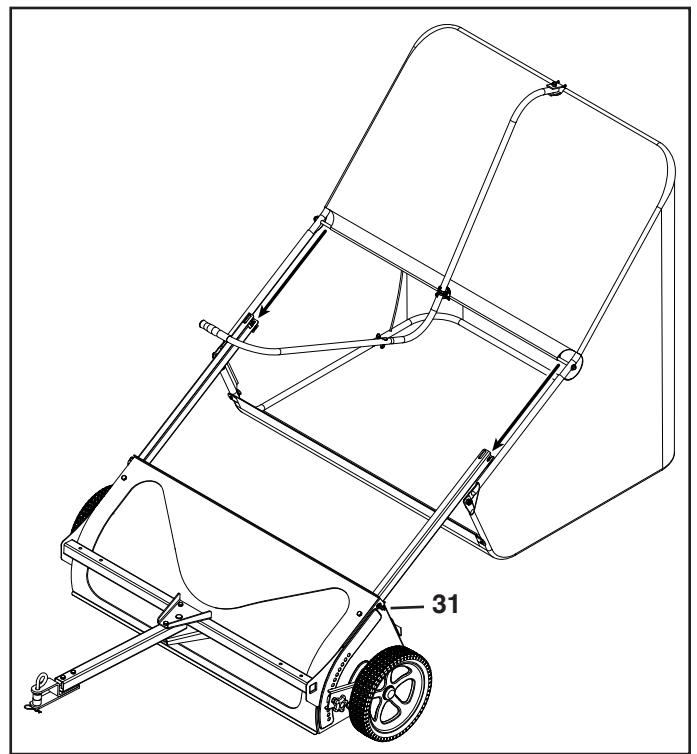

FIGURE 18
31. To attach the hopper bag to the sweeper, slide the pivot rod into the pivot rod retainers on the ends of the bag arm channels. The channels go on the inside of the bag tubes. See figure 18.
- HINT:** Temporarily loosen the plastic wing nuts (31) if necessary to fit the channels inside the bag.